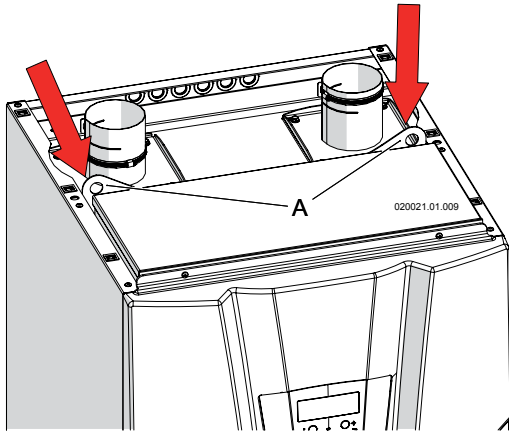

Figure 6-3 - Bracket to lift the appliance
- 4.- Access to the uplift brackett "A" (Figure 6-3) on the upper side of the appliance (see Figure 6-3);